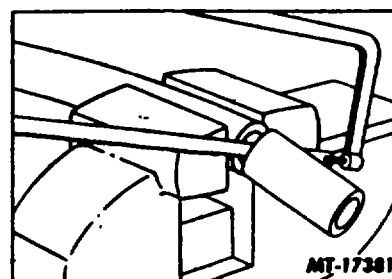

Fig. 2
4. Use a fine-tooth hack saw to cut hose to desired length (Fig. 2). Use care in supporting the hose so as not to crush or damage the hose during the cutting operation.